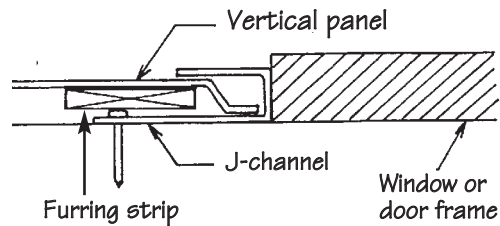

Figure 57.
- If the panel is uncut or cut down in the "V"-shaped groove of a piece of vertical siding, simply insert it into the J-channel, locking the other side onto the previously applied panel (Fig. 57). A furring strip should be installed to prevent panel detachment.